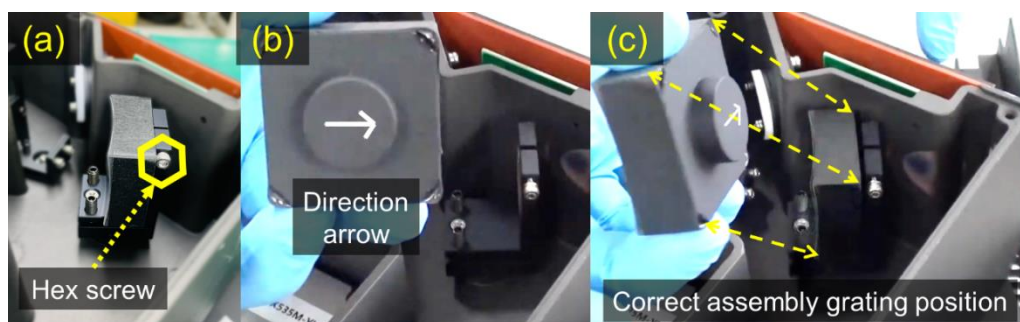

Figure 3. How to remove and replace the grating.
3. Loosen the headless hex screw located rear side of the grating (see Figure 3) to remove the old grating.
4. Install the new Grating with the arrow direction ahead to indicated point and slightly fasten the hex screw (as shown in Figure 3-(b), (c)).
- d. If the spectrum is not positioned horizontally, loosen the headless hex screw located rear side of the grating (refer to Figure 3-(a)).